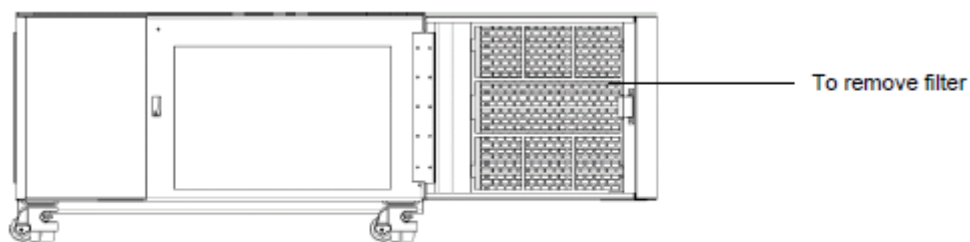

Figure 4-1. Location of Grille and Filter
2. Locate the grille on the door. See Figure 4-1.